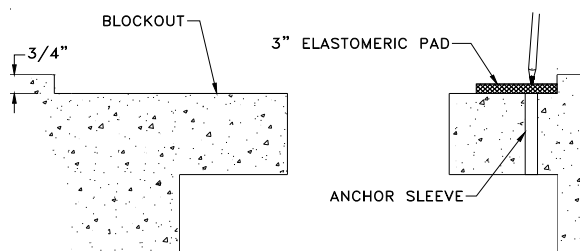
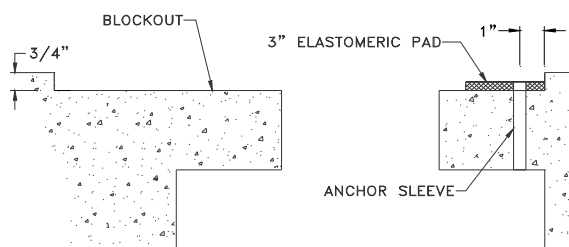

Figure 4
Figure 5
**STEP 11.** Select the 3" wide elastomeric pad. Mark the locations for the sleeve anchors on the pad. The anchor holes are located 1" from one edge of the pad and are aligned with the sleeve anchors in the concrete (see Figure 4). Ensure that the edge of the pad will be flush with the edge of the cover plate when both are installed.
**STEP 13.** If water barrier and/or fire barrier are not installed in conjunction with the expansion joint cover, use the epoxy gel adhesive (by others, Balco, Inc. recommends Burkepoxy NS manufactured by Edoco; Phone: 310-834-3401 or: 888-BURKEUSA; Website: [www.burkebyedoc.com](http://www.burkebyedoc.com)), attach the 3" pad to the blockout as shown in Figure 4. The adhesive must be applied in accordance with the adhesive manufacturer's written instructions. Ensure that the anchor holes in the 3" pad are aligned with the anchor sleeves in the concrete and that the edge of the pad will be flush with the edge of the cover plate when both are installed (see Figure 5).